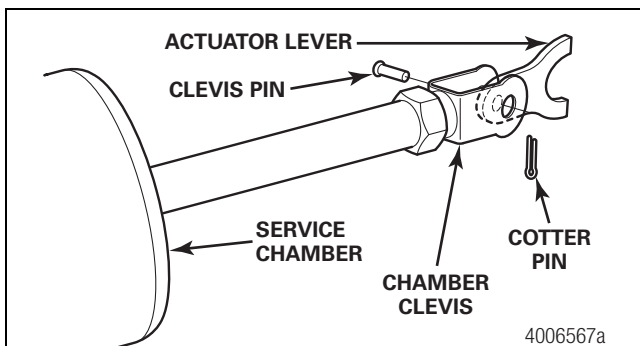

Figure 10
10. Attach the actuator lever to the service chamber clevis. Install the clevis pin and the cotter pin. Bend one leg of the cotter pin. Figure 10.